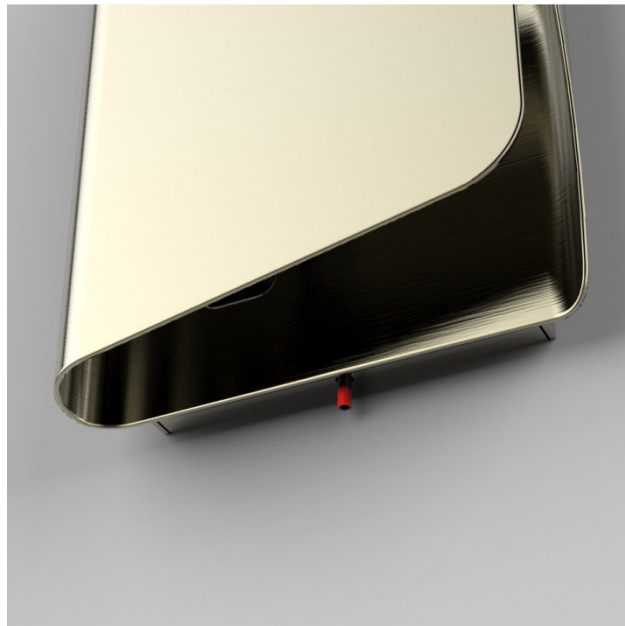

Figure 3
- Remove mounting plate from backside of fixture by loosening bottom set screw, (Figure 3)
- Using the provided Allen Wrench, tighten set screw on bottom of sconce. (Figure 3)